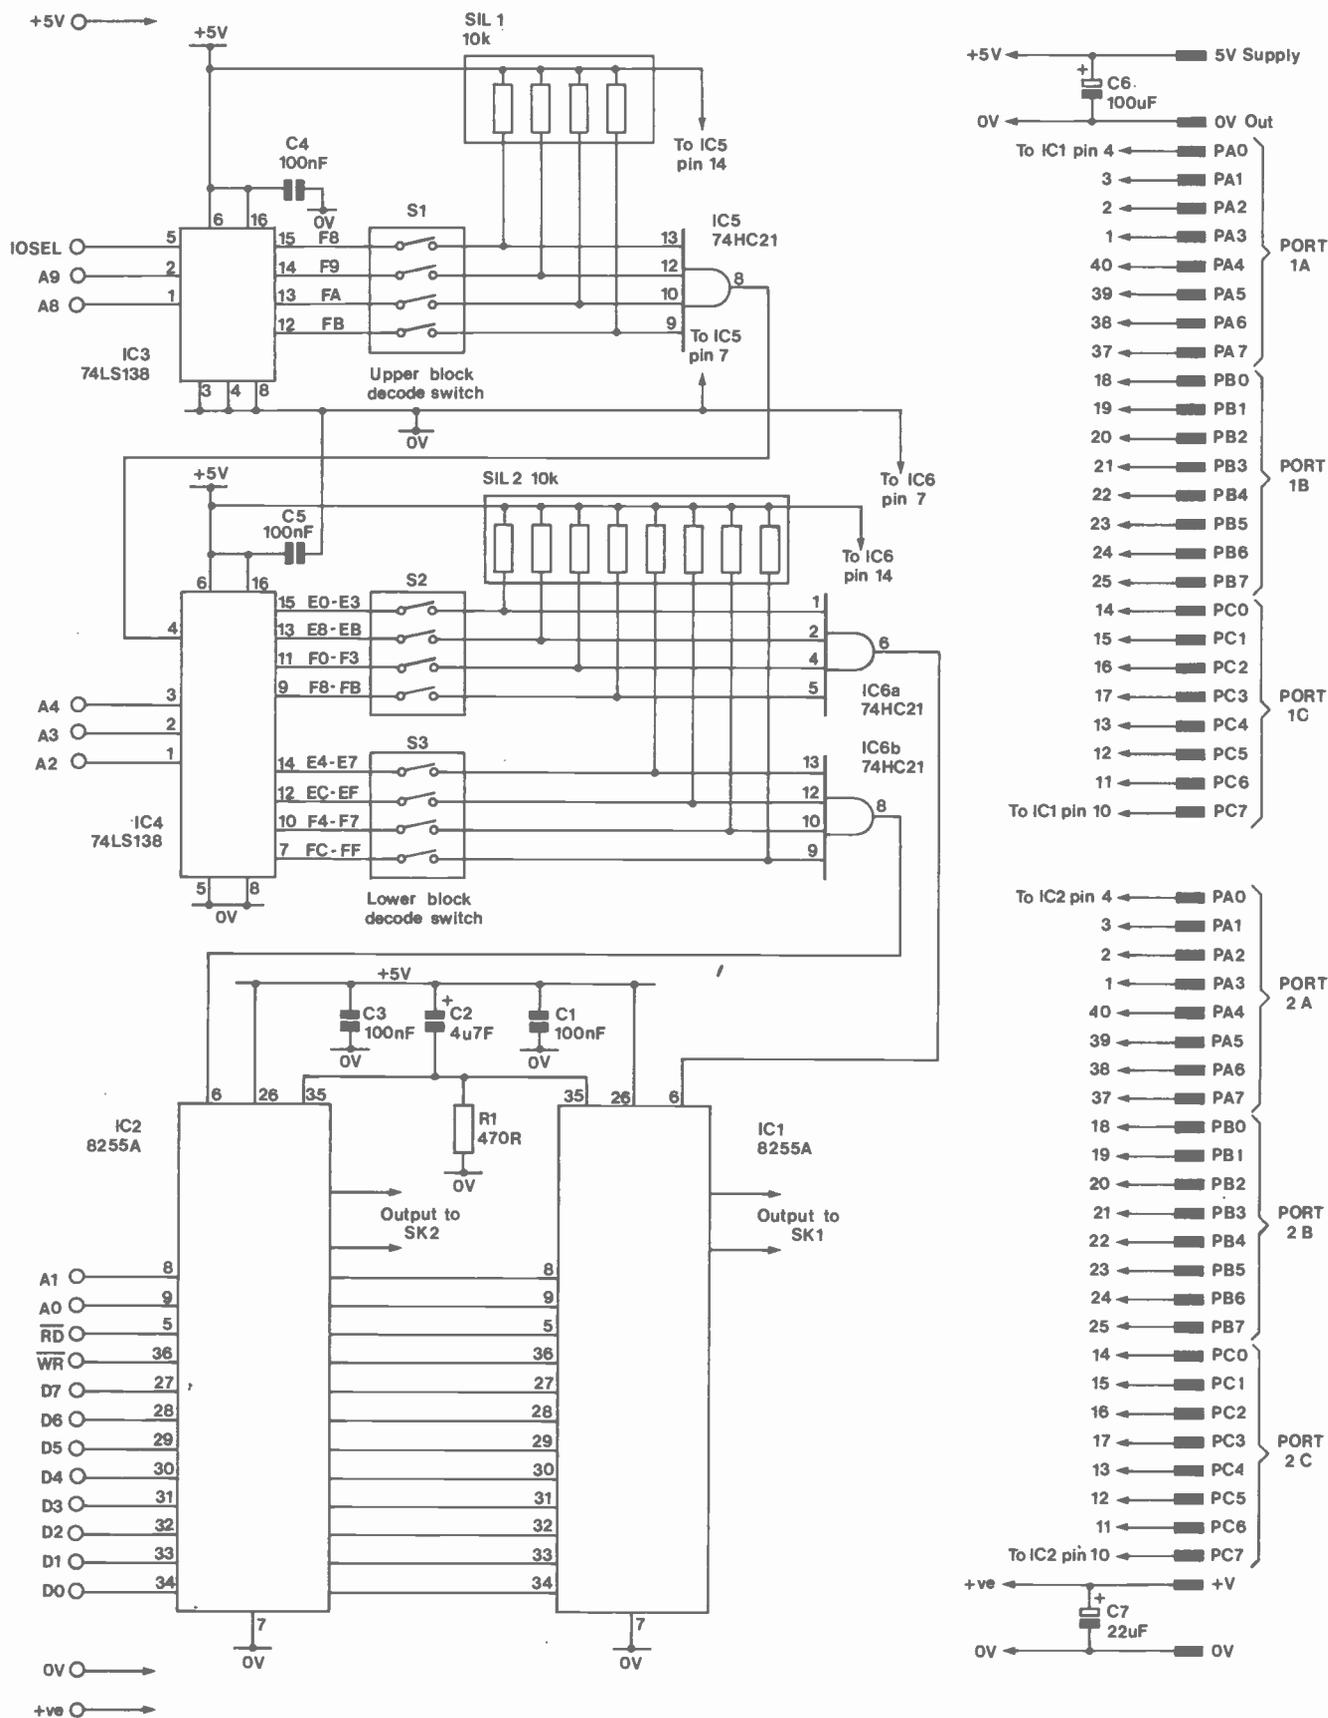

Figure 1. 6 x 8-bit Port Circuit
Firstly, the most popular method of refrigeration is the vapour compression system and this is the system we will concentrate on. A simple circuit diagram is shown in Figure 1. At the heart of the system is a hermetically sealed motor compressor, which is a compressor (generally reciprocating) with an electrical motor fixed on the compressor, supported on springs (to reduce vibration) put in a metal can, with oil being added for lubrication purposes. An outlet is provided for the electrical wiring, with a copper pipe outlet for the discharge of refrigerant vapour and a copper pipe inlet for the refrigerant return or suction line. In addition the can is welded to produce a sealed system.
**Figure 1. An elementary mechanical refrigerator. A—Refrigerator. B—Liquid refrigerant receiver. C—Refrigerant control. D—Evaporator. E—Motor-driven compressor. F—Condenser. In this refrigerator, the refrigerant is not allowed to escape, but is recycled, as necessary, to get the desired temperature.**
As shown in Figure 1, this liquid collects in a liquid receiver which in domestic refrigerators is omitted for reasons of cost. From the liquid receiver, the liquid refrigerant passes to a refrigerant flow control, which is a length of coiled fine bore copper tubing, called a capillary control in a domestic refrigerator or freezer.
Figure 1 shows two 8255A (P.P.I.) devices, IC1 and IC2. Both devices are fully programmable for a variety of I/O functions, and contain four main registers each. In each case address lines A0 and A1 determine which 8255 register is accessed, with the RD and WR lines controlling data flow into or out of the register via data bus D0 to D7. IC3 and IC4 decode address blocks allocated by the Amstrad, and enable IC1 and IC2 at the correct time. IOSEL, A8 and A9, are decoded by IC3 to produce upper byte values (Hex) F8, F9, FA and FB. Any combination of values can be selected by switch S1, to produce a negative or active low (E) pulse from IC5 to IC4 pin 4. Similarly, IC4 decodes lower byte values from A2, A3 and A4, being selected by switch S2 and switch S3. Again, any combination of 1 to 4 switches can be selected to produce a negative (CS) select pulse from IC6 to IC1 and IC2. R1 and C2 produce a short positive pulse when the supply is first connected. This pulse RESETs both PPI's by clearing their control registers, thus setting all ports to the input